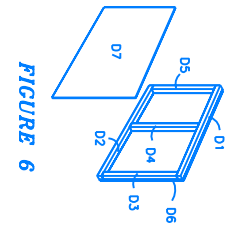

FIGURE 6
5) Component D. Lay out pieces D3, D4 and D5 between pieces D1 and D2 with the 7 degree angle matched to piece D1. (Fig 6). Nail through piece D1 and D2 into the ends of pieces D3, D4 and D5 using 2 1/2" common nails. Place piece D6 on top flush with outside edges on D1, D2, D3 and D5. Nail to pieces D1, D2, D3, D4 and D5 using 1 1/2" common nails. Place insulation. Invert the assembly and place piece D7 on top flush with outside edges in D1, D2, D3. Nail to pieces D1, D2, D3, D4 and D5 using 1 1/2" common nails.